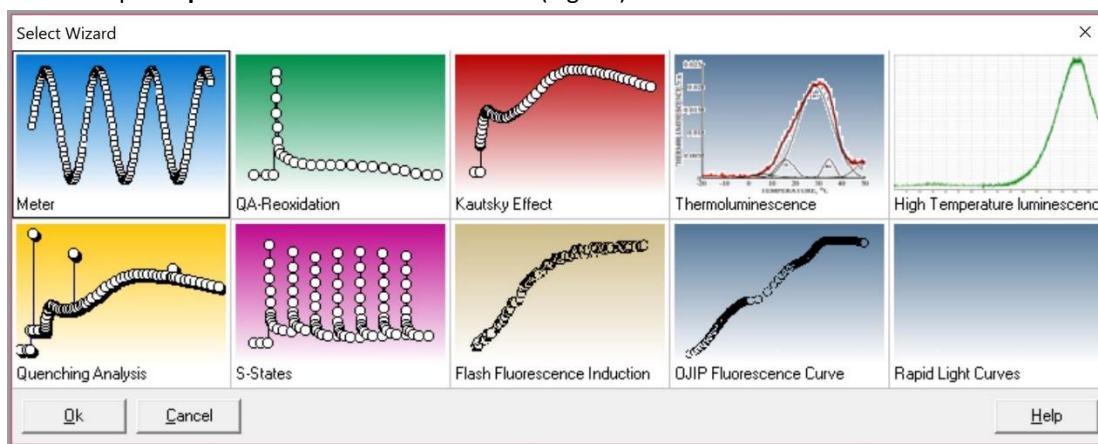

Fig. 15 Wizard menu.
- Select the required **protocol** from the Wizard menu (Fig. 15).